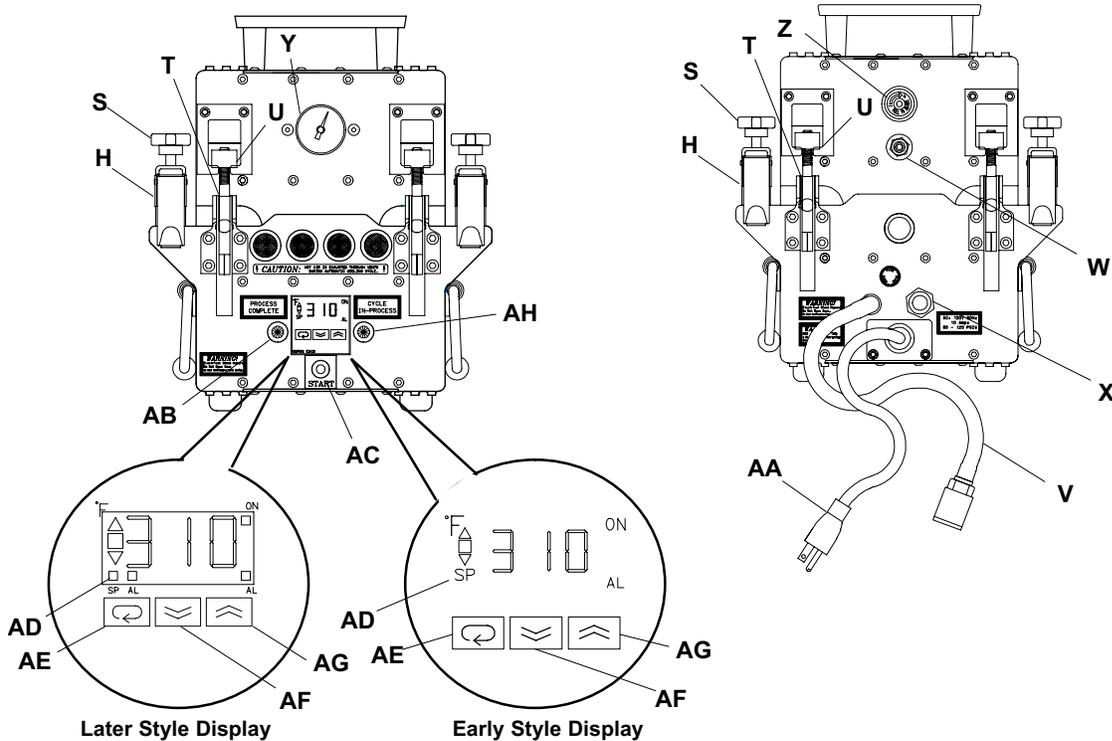

Figure 6
Upper half of press is heavy and may require two people to lift it. Make sure temperature controller and pressure gauge are on the same end. Lock down the two main tension latches (Figure 6, item T), on each end. Latches should be snug but not tight. If latches are too tight or too loose adjust barrel nut (U), on each latch, until a slight amount of resistance is felt while being locked.
8. Connect gray bladder air hose (Figure 6, item V), attached to bottom half of heat press, to fitting (W) on top half. Apply 75–125 PSI (525 to 875 kPa) supply air pressure to air inlet fitting (X) on lower press half [gauge (Y) on front should read 15 psi]. If necessary, adjust regulator (Z) on back of press.
10. Adjust the required set point temperature (listed in Table 1) on temperature controller. The set point temperature is displayed when the green (later style) or red (early style) “SP” indicator (Figure 6, item AD) is lit on the